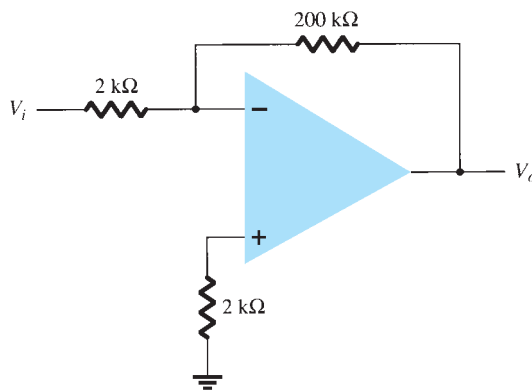

FIG. 10.75
- *16. Calculate the total offset voltage for the circuit of Fig. 10.75 for an op-amp with specified values of input offset voltage $V_{IO} = 6$ mV and input offset current $I_{IO} = 120$ nA.
- *20. For an input of $V_1 = 50 \text{ mV}$ in the circuit of Fig. 10.75, determine the maximum frequency that may be used. The op-amp slew rate $SR = 0.4 \text{ V}/\mu\text{s}$.
- *21. Using the specifications listed in Table 10.3, calculate the typical offset voltage for the circuit connection of Fig. 10.75.
- *22. For the typical characteristics of the 741 op-amp, calculate the following values for the circuit of Fig. 10.75: